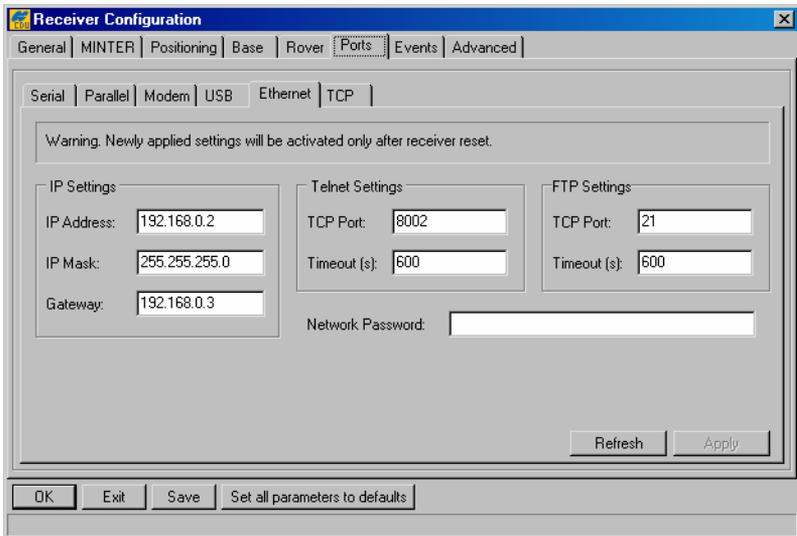

Figure 2-9. Ethernet Connection Settings – FTP Network Example
4. Select the following **IP Settings** for the receiver (Figure 2-9 on page 2-21):
5. In the **Telnet Settings** area, leave all settings at the defaults, but ensure that TCP port is set to 8002 (Figure 2-9 on page 2-21).
6. For network connections, configure **FTP Settings** (optional) with the following selections (Figure 2-9):
7. If required, enter a **Network Password** to access the FTP server (Figure 2-9).